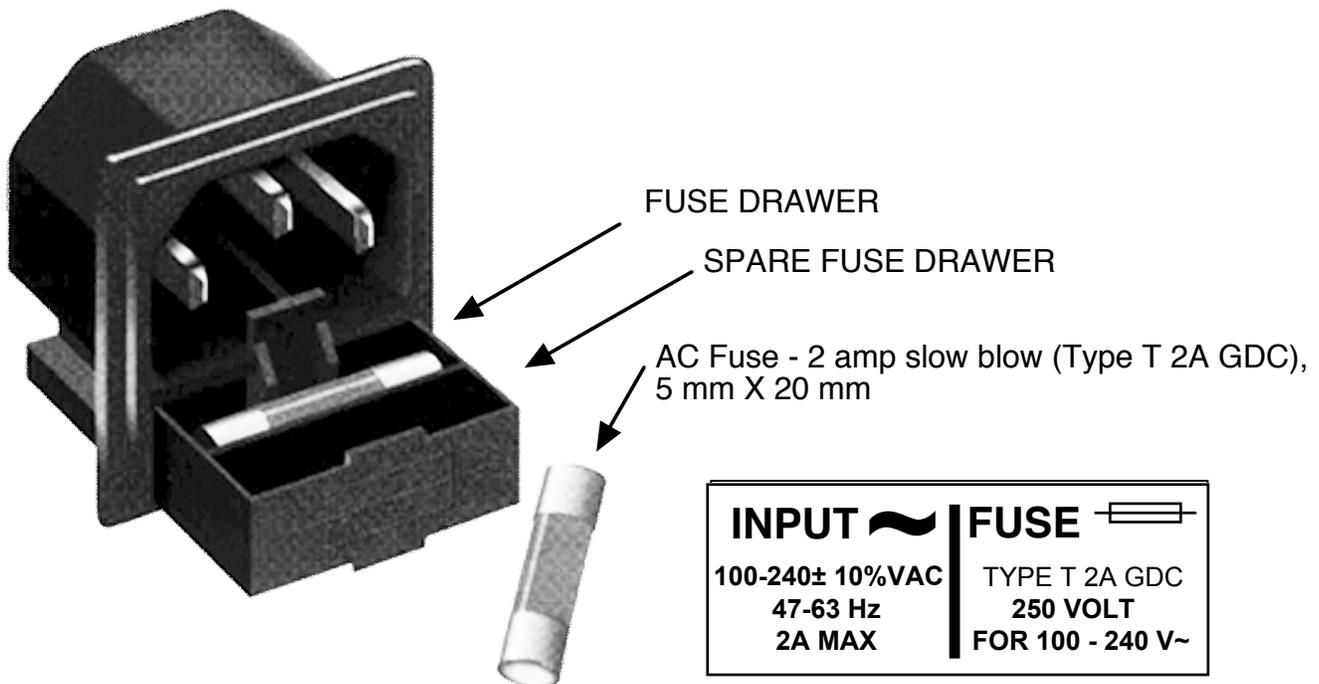

FIGURE 2.4 Fuse Location and Spare Fuse
2.5.1 Functions - This section describes operation of the front panel controls. There are three operator switches, the LCD display and alarm indicator LEDs. All functions for the equipment are controlled by these components. The functions are (see Figure 2.4):